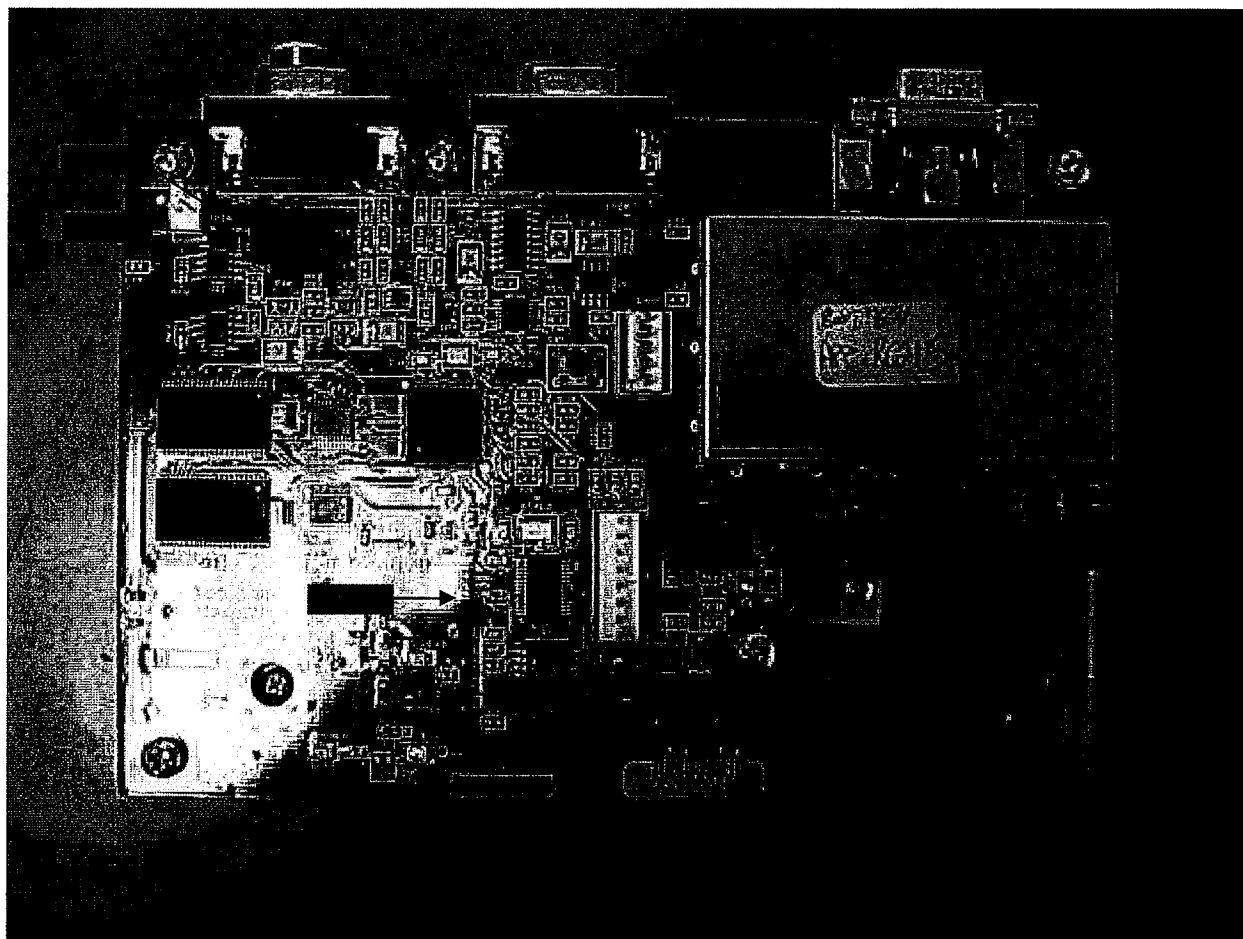

Figure 9
- 9.4.8.3 Verify the following voltage measurement on the reader board. Negative reference for DMM stated first. See figure 9 for locations of Test Points.